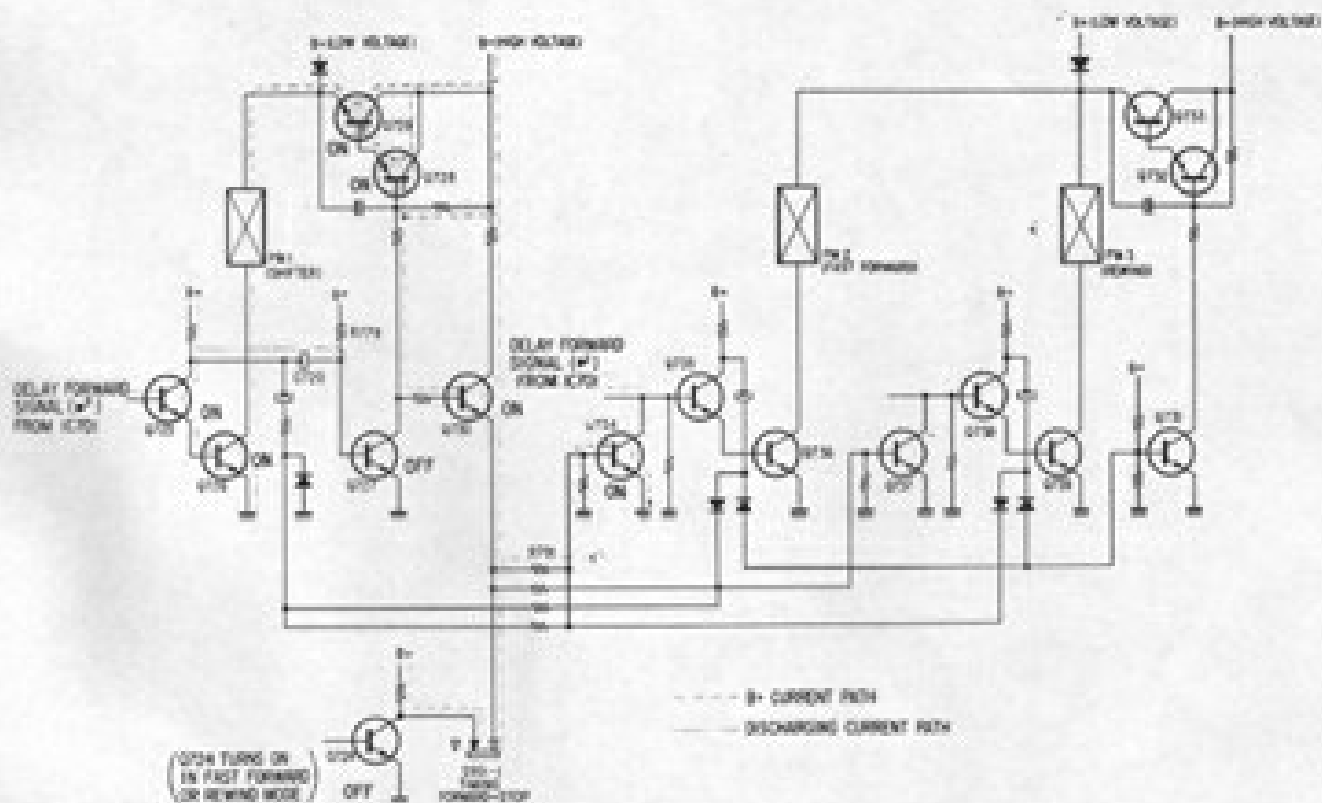

Fig. 1-2 Forward Button Pushed ON
1. STOP mode - forward mode (energized PM1 and PM2) (See Figs. 1-2 and 1-3)